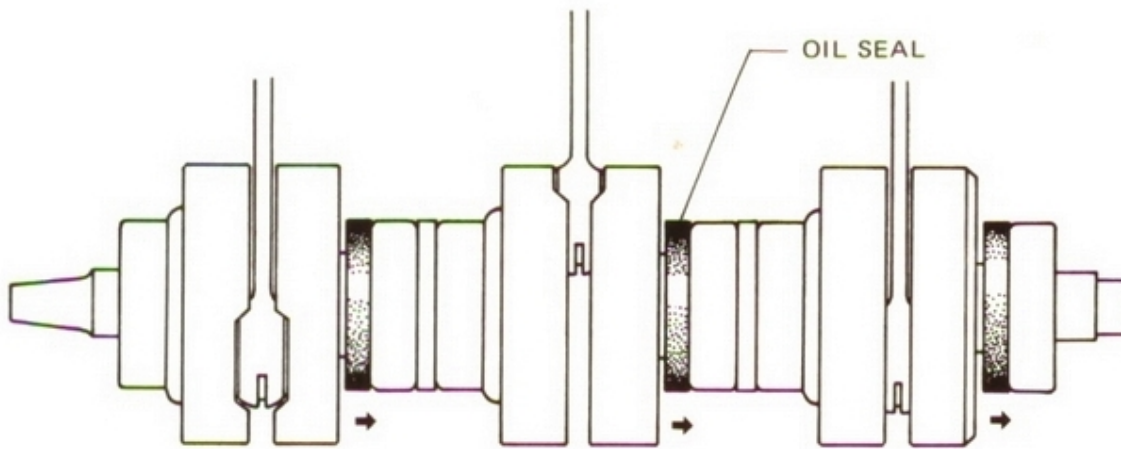

Fig. 7-3-5
- 2) All the movable oil seals on the crankshaft should be put to bearing side. Fig. 7-3-5.